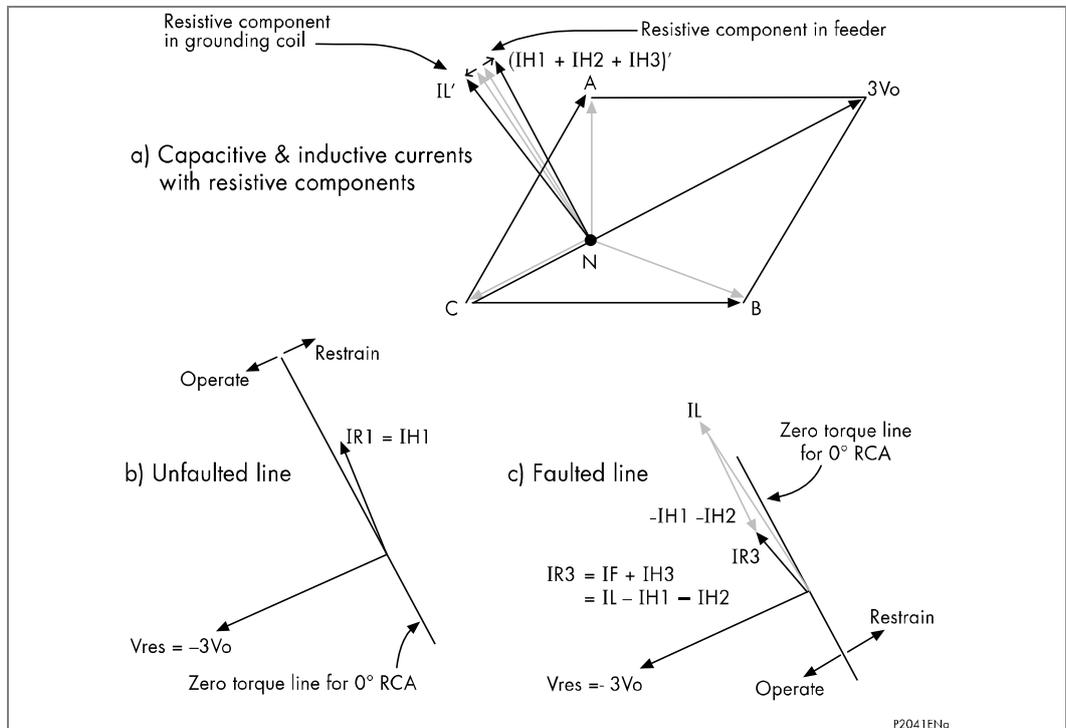

**Figure 12 - Theoretical case - no resistance present in XL or XC**
*On the faulted feeder, the residual current is the addition of the charging current on the healthy phases ( $I_{h3}$ ) plus the fault current ( $I_f$ ). The net unbalance is therefore equal to  $I_l - I_{h1} - I_{h2}$ , as shown in Figure 11c. This situation may be more readily observed by considering the zero sequence network for this fault condition. This is depicted in Figure 12 below;*